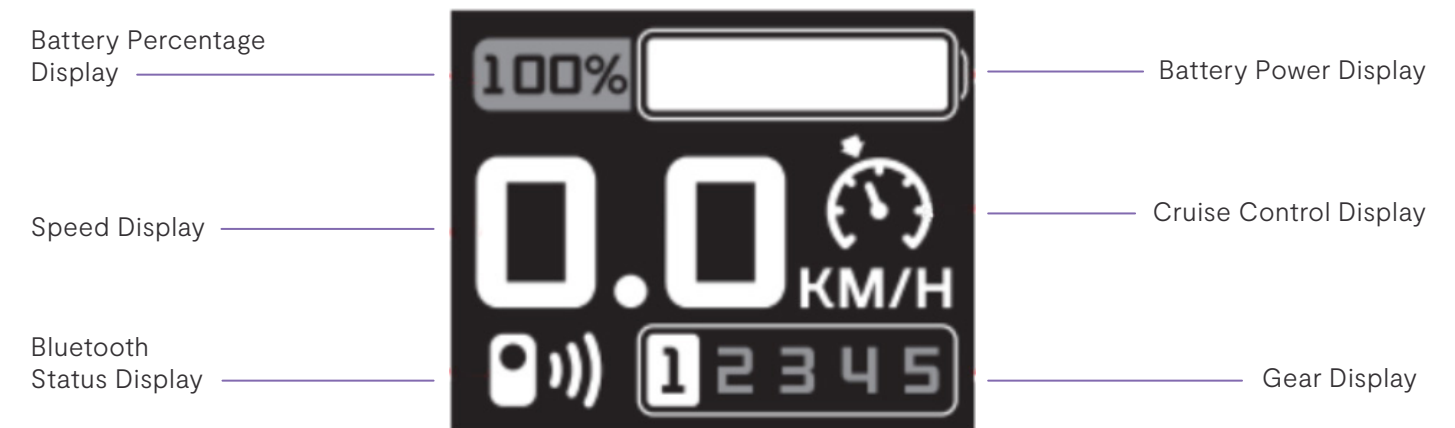

Figure 4.3.3.1
- The top of the display screen shows the remaining battery level as a percentage (%). (See Figure 4.3.3.1)
- Speed accuracy is within  $\pm 5\%$ . (See Figure 4.3.3.1)
- When Bluetooth is connected, the Bluetooth icon will be displayed. (See Figure 4.3.3.1)
- The screen continuously displays the real-time power status of the Powerchair. (See Figure 4.3.3.1)